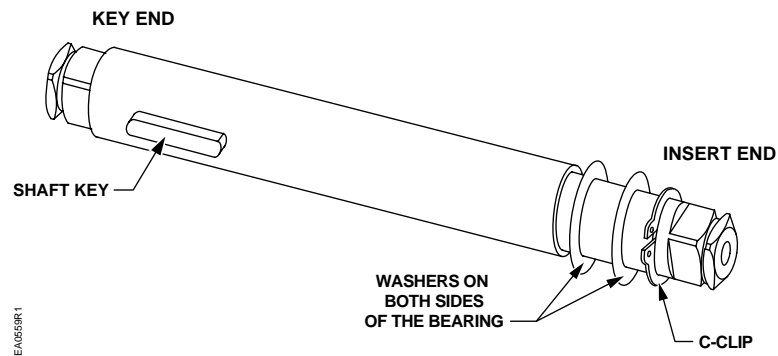

Figure 4.
3. Each shaft is supplied with two washers and a “C” clip. See *Figure 4*. Using spreading pliers, remove the “C” clip and the washers from the shaft.